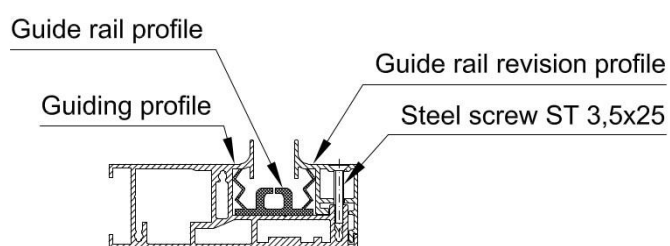

Fig. 7. Guide rail structure.
- Fig. 7 presents the guide rail structure.